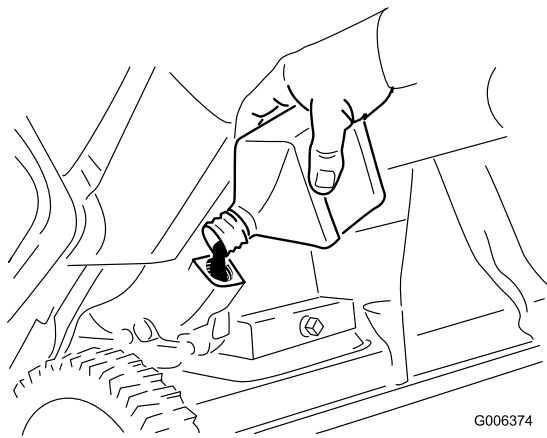

Figure 29
8. With the machine in the operating position, **carefully** pour oil into the oil fill hole. Wait 3 minutes for the oil to settle and add enough to bring it to the point of overflow. There should be very little, if any, oil left in the bottle.(Figure 29).